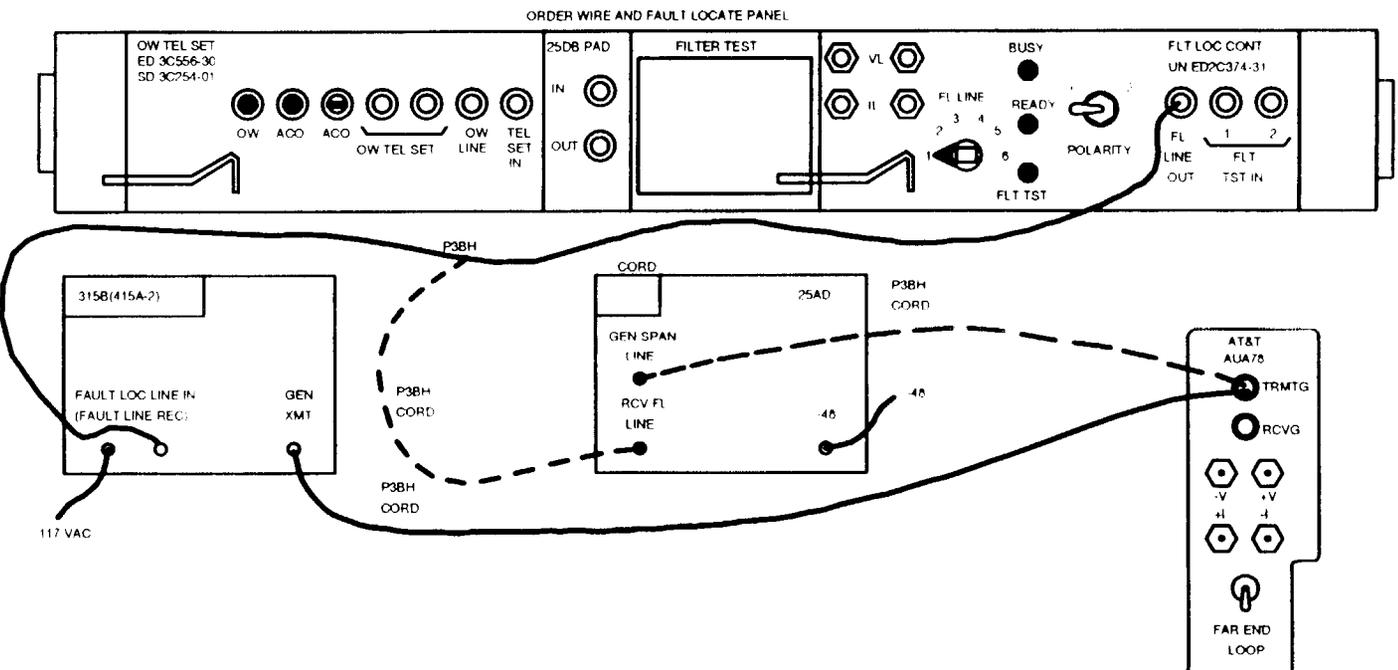

Figure 1 — COT Fault-Locating Configuration
11. At FL panel, set **FL LINE** switch to number of fault-locate line being used (Figure 1).
12. Make test connections as shown in Figure 1.